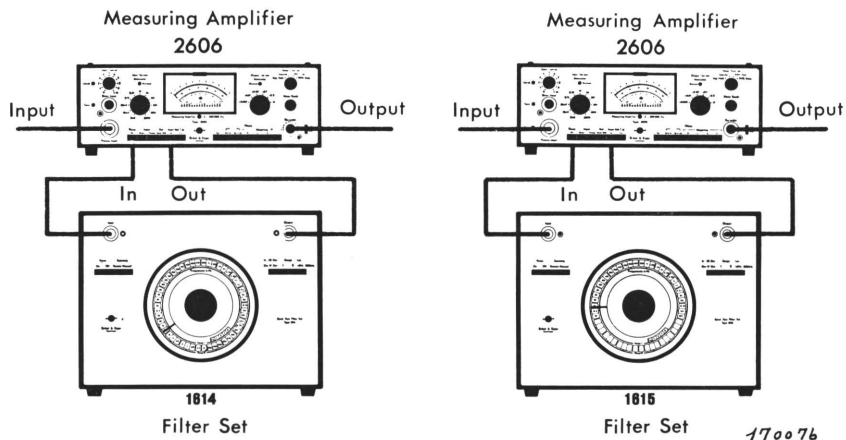

Fig.4.2 Filter Set Type 1614/15 combined with Amplifier Type 2606
The Type 2606 is a more advanced model of the 2603/04 with a wider overall frequency range (2 Hz—200 kHz) which covers both the 1614 and 1615. A typical set up for operation is shown in Fig.4.2. This system can be used to record sound or vibration or analyse other voltage waveforms if
1. Connect up instrumentation as in Fig.4.2.